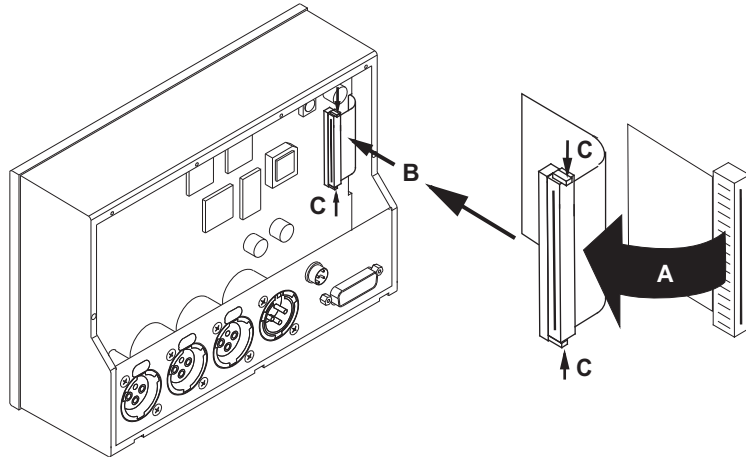

Fig. 8-11: Fastening the connecting flat cable to the main pcb
13. Bend the connector of the outstanding connecting flat cable with its contacts to the connector on the main pcb (A) and place it (B). Fasten it with slight pressure (C), but don't press the flat cable or don't damage it. (Fig. 8-11)